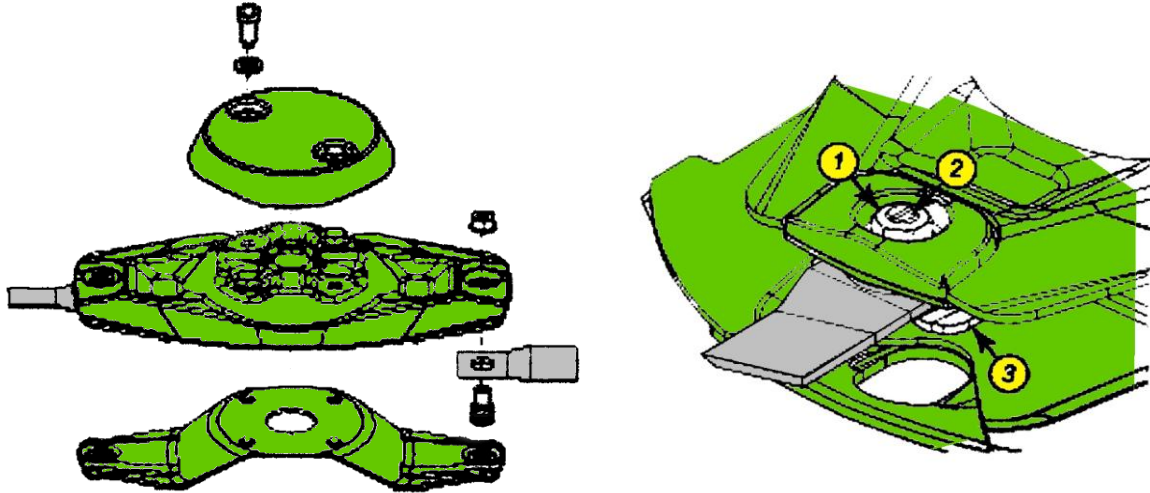

FIGURE 8.3 - DISK PLATE
Knives (Figure 8.3) must be replaced if worn and damaged. Uneven ground may cause cracks and the deformation of knives.
The **fixing elements of knives** (Figure 8.3, ref. 1, 2, 3) must be replaced when: